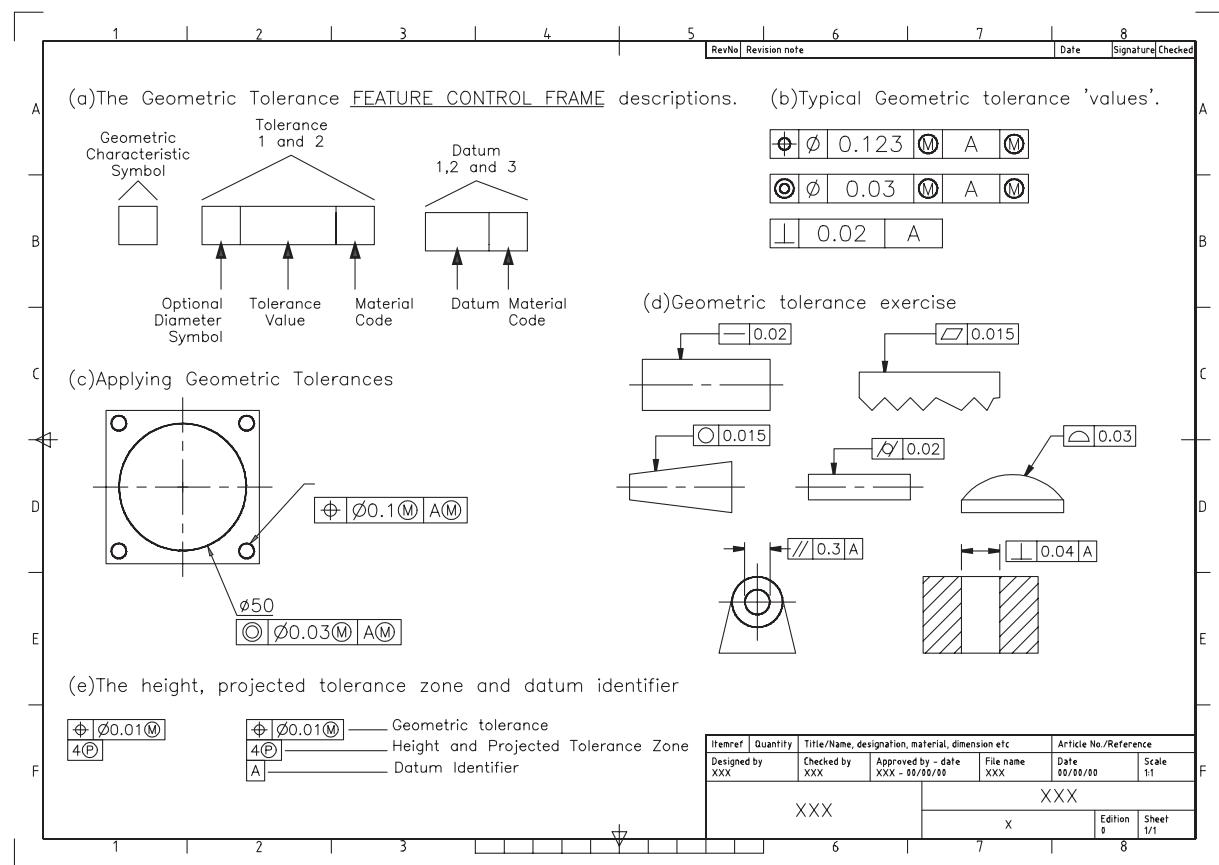

Figure 25.5 Geometric tolerance terminology and usage.
- 3 a) A Feature Control Frame consists of two/three sections or compartments, displayed in Figure 25.5(a)
4 Typical types of geometric tolerance ‘values’ are displayed in Figure 25.5(b).
- 1 Refer to Figure 25.5(c) and create a square with circles as shown – own sizes.
respond **pick to suit** – refer to Figure 25.5(c).
- 1 Refer to Figure 25.5(d) and create ‘shapes’ as shown – size is not important.
- 3 Investigate the height, projected tolerance zone and datum identifier options from the Geometric Tolerance dialogue box as Figure 25.5(e).